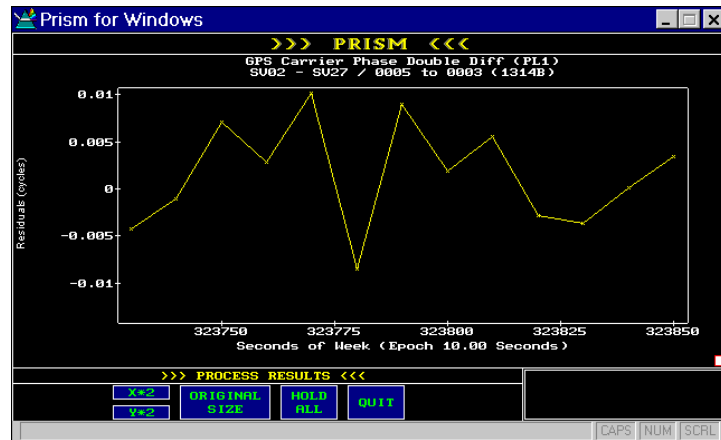

Figure 8.29: Plot Display (Zoom Window)
2. Drag the mouse to create a box around the area, as shown in Figure 8.29.